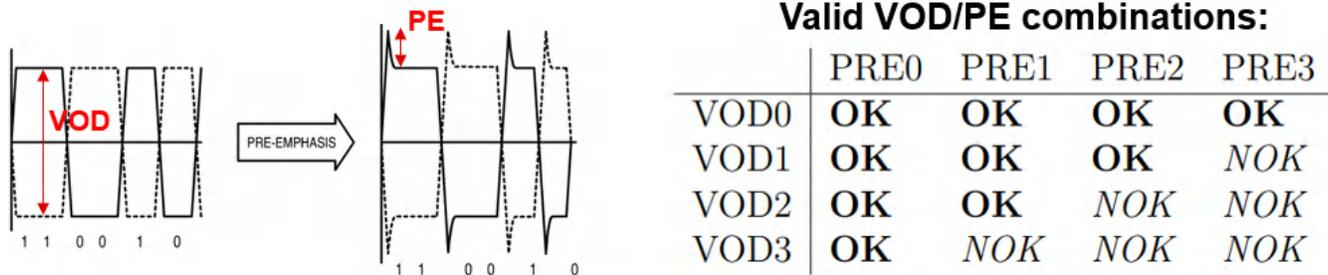

Figure 2-2. VOD Swing and Pre-Emphasis
- Clock Recovery:** This is the first step of link training. Since the DP/eDP interface does not include an independent clock line, clock recovery is when the sink attempts to recover a synchronous clock from the data stream of the source. The source transmits TPS1 at the highest supported DP/eDP lane speed by the sink, lowest voltage swing (VOD), and lowest pre-emphasis (PE). VOD adjusts the differential voltage swing and amplitude, and pre-emphasis modifies the overshoot to the signal as the overshoot leaves the transmitter. The source then checks the DPCD Registers 00202h and 00203h bits 4 and 0 LANEx_CR_DONE through the AUX channel. This process lasts 100µs for all interval settings defined in DPCD Register 0000Eh TRAINING_AUX_RD_INTERVAL. If all LANEx_CR_DONE bits report back 1, then clock recovery is successful. If any LANEx_CR_DONE bits report back 0, then the VOD/PE combination increments upwards and the training pattern is re-transmitted for another 100µs. If the clock is not recovered after five times with the same lane speed, the source then reduces the lane speed, restarts from the lowest VOD/PE combination, and cycles until the clocks are successfully synchronized, or until it fails with the maximum VOD/PE combination at the lowest speed. Valid VOD/PE combinations are shown in Figure 2-2. VOD and PE cannot add to be greater than three.